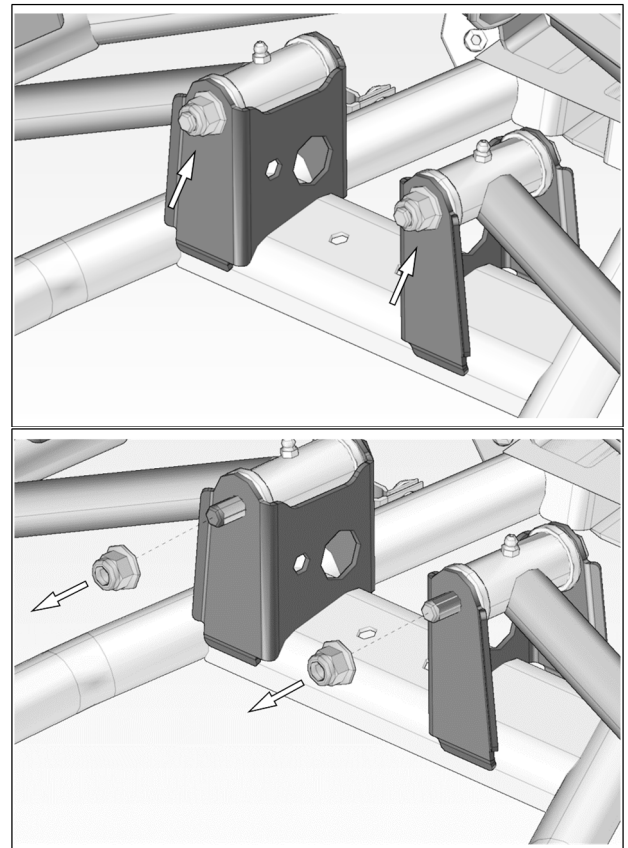

Fig. 12
13. Remove the flange nylon nuts from the mounting bolts securing the rear suspension lower arms (near front of differential). Refer to Fig. 12